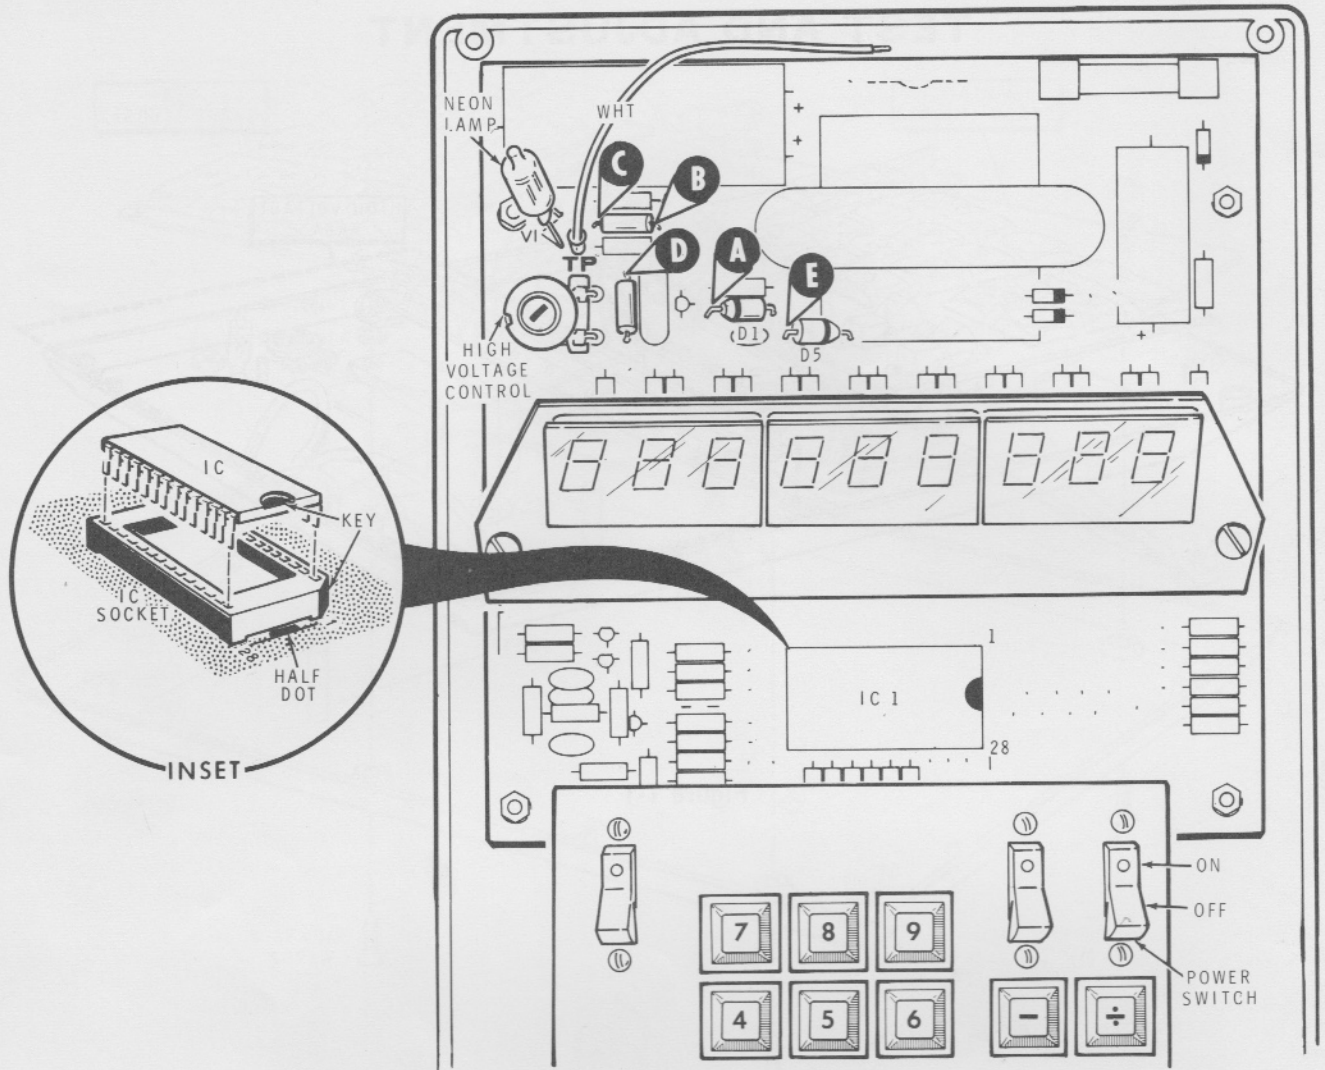

Figure 1-2
Refer to Figure 1-2 for the following steps.
- (✓) Refer to Figure 1-2 and install a TMS0119 integrated circuit (#443-621) at IC1 as follows: